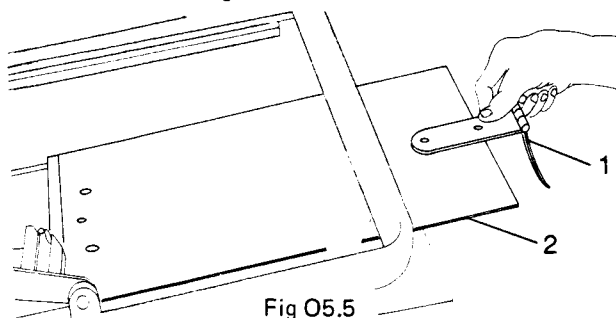
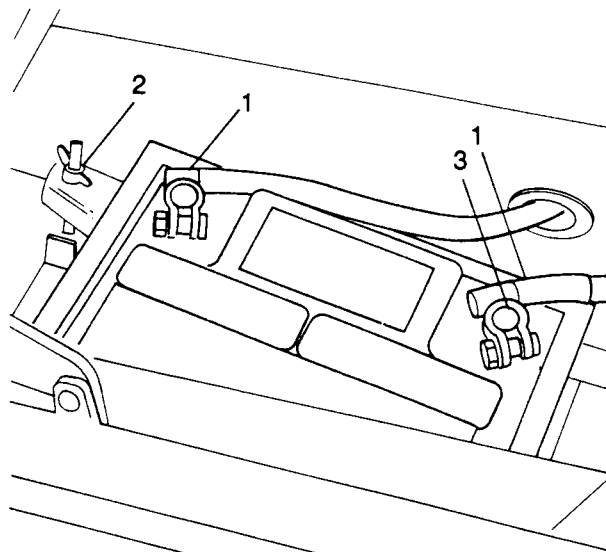

Fig O5.5
Fig O5.6
- (2) Refer to Fig O5.5. Undo the antiluce fastener (1) in front of the seat frame, lift the plate (2) slightly and pull forward to remove.
- (3) Refer to Fig O5.6. Disconnect the two battery leads (1).
- (4) Remove the two wing nuts (2) and lift off the battery retaining frame.
- (5) Lift out the battery.
- (1) Fig O5.6 still applies. Place the battery into the box with the positive terminal (3) adjacent to the positive (red) lead.
- (2) Refit the battery frame, carefully avoiding contact with the terminals, and secure with the wing nuts (2).
- (3) Remove any oxydization from the leads and terminals with a clean cloth. Fit the leads and secure. Apply a smear of acid resistant grease around the terminals.
- (4) Fig O5.5 still applies. Replace the plate over the battery box and clip the antiluce device into position.
- (5) Replace the seat.